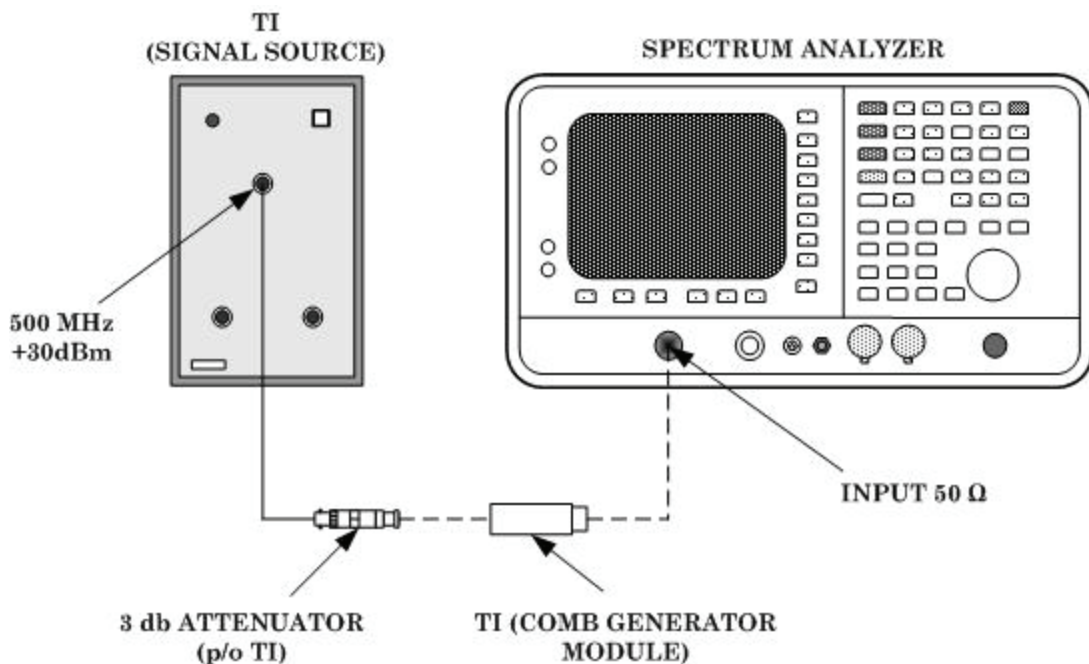

Figure 2. Output power - equipment setup.
- (1) Connect equipment as shown in figure 2.
- (2) Press **STANDBY** pushbutton to **ON**.
- (3) Adjust spectrum analyzer to display the comb line frequencies listed in table 3. Comb lines will be within limits specified.